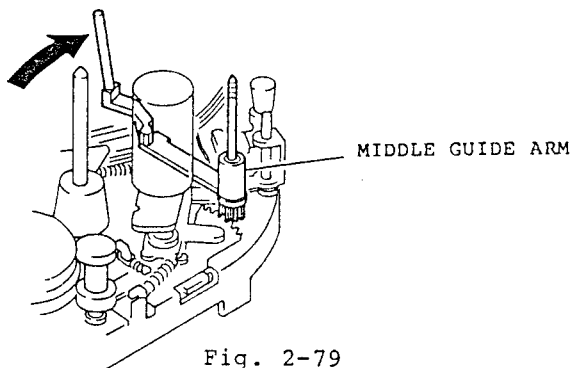

Fig. 2-79
(See Fig. 2-79)
4. Remove the middle guide arm. (See Fig. 2-79)